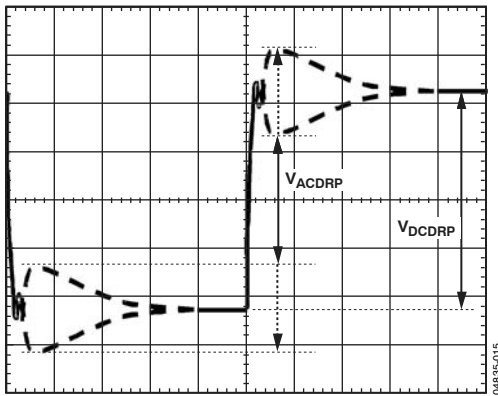

Figure 15. AC Loadline Waveform
- Measure the output waveform (if not visible, use dc offset on scope to view). Try to use a vertical scale of 100 mV/div or finer. This waveform should look similar to Figure 15.